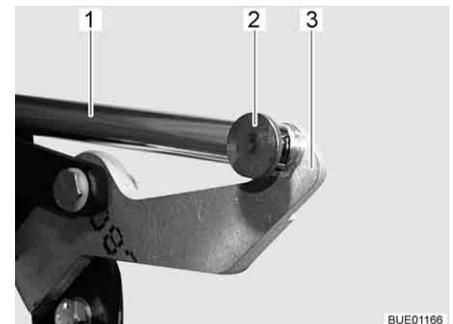

Fig. 103 Drive
- Detach the pin and cotter pin (Fig. 103,2) between the push rod (Fig. 103,1) and lever (Fig. 103,3).